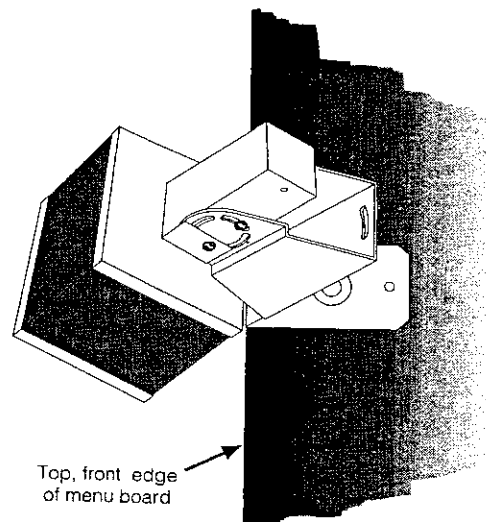

**Figure E-7.**
- Attach the menu-board mounting bracket to the DM1 as shown in Figure E-7.